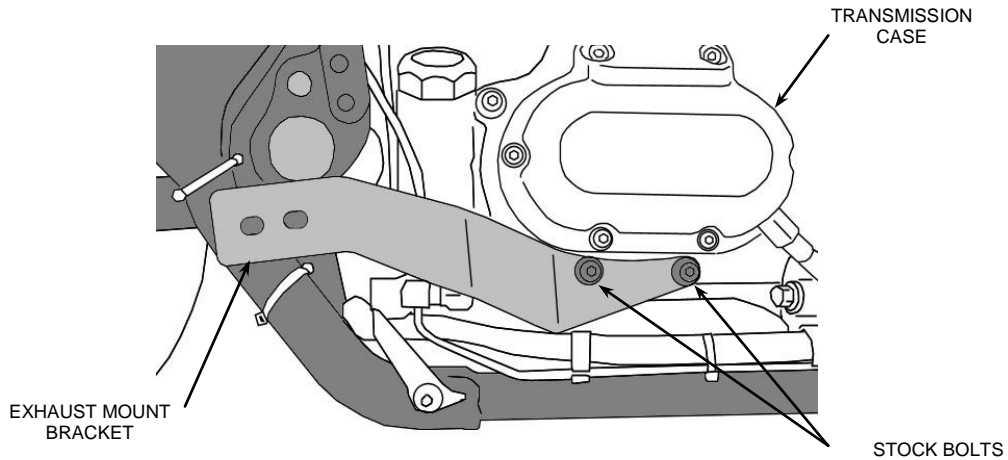

FIGURE 2
7. Remove the stock front headpipe support bracket (and pipe clamp) from the transmission case and install the supplied exhaust mount in this location using the stock bolts, but **DO NOT TIGHTEN**. See Figure 2.